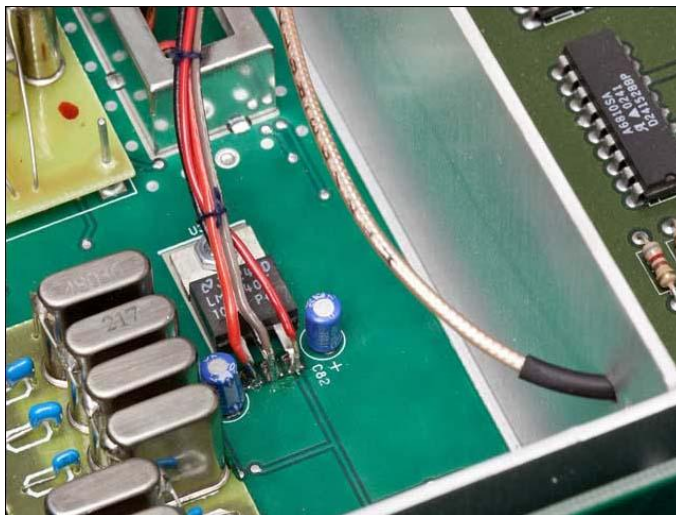

Figure 9: Power Source for Z10000 Buffer
14. Power for the Z10000 board is found on the 9MHz IF board at the same location as the Orion's sweep amp board. The 13.8 VDC input to 10 VDC voltage regulator attachment is shown in figure 9 and power is taken off the left lead (+) and centre lead (GND).